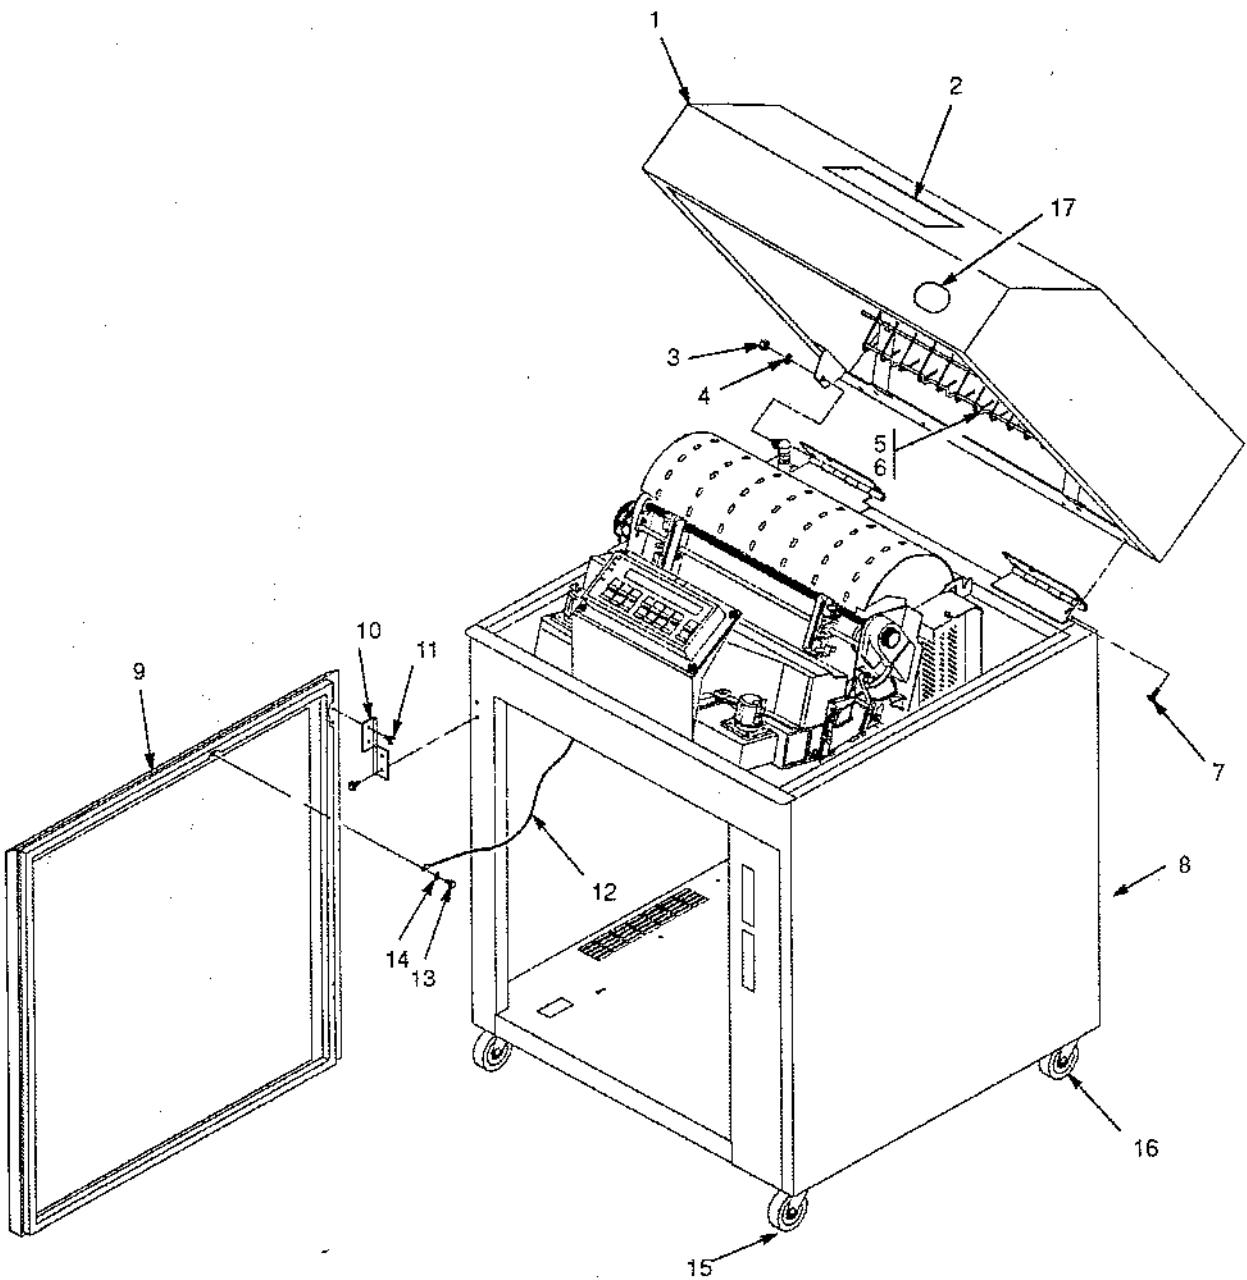

Figure 6-6. Top Cover, Doors, and Casters
| Figure 6-6. Top Cover, Doors, and Casters | 6-67 |
| 6 | | Brush | Attaches to item 5 Not visible in Figure 6-6 |
| 8 | 57G1489 | Rear Door Assy 30H4009 | Not visible in Figure 6-6 |